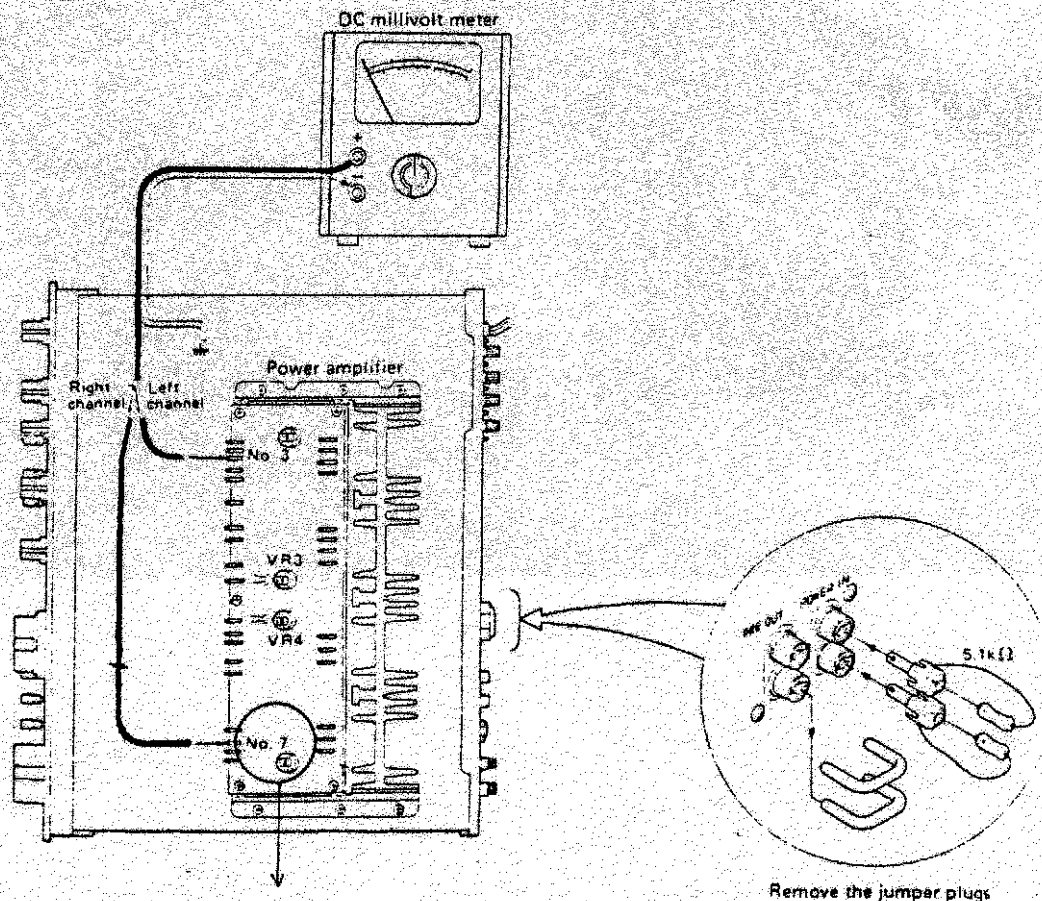

Fig. 7
1. Connect as shown in Fig. 7.